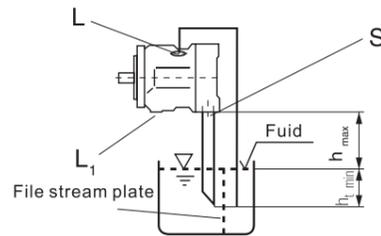

fig. 4
- b) When the minimum fluid level lies under the pump upper edge then: drain port L1, L and possibly port S has to be piped, see fig. 4. Conditions are as per in section 1.2.1.
- a) For installation above a tank see fig. 4. Conditions are as per section 1.2.1.